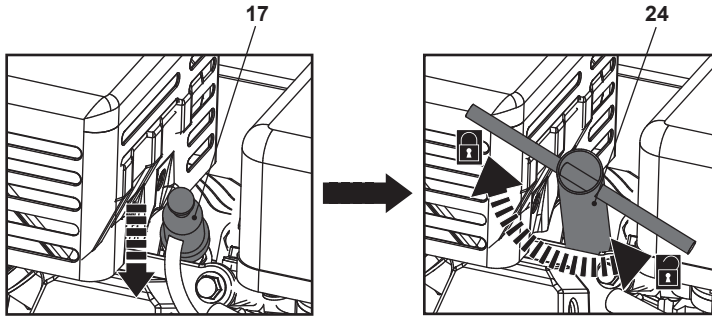

Fig. 13
- Disconnect the spark plug connector (17) (Fig. 13).
- Loosen the spark plug anticlockwise using the spark plug wrench (24) and remove it carefully.